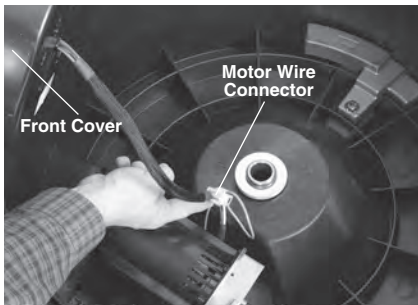

Figure 18 – Drain Cleaner Housing Opened
2. Use a 4 mm hex wrench to loosen the front cover fasteners (they are retained to the cover and frame). Lift the cover and unplug the motor wire connector (Figure 18). Feed cable through bushing into machine. Remove the front cover.